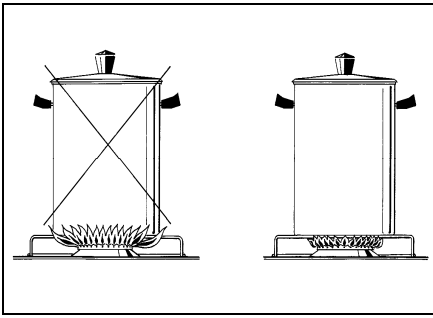

Fig.16
- Use suitable pots for each burner (see Fig. 16 and Table B)